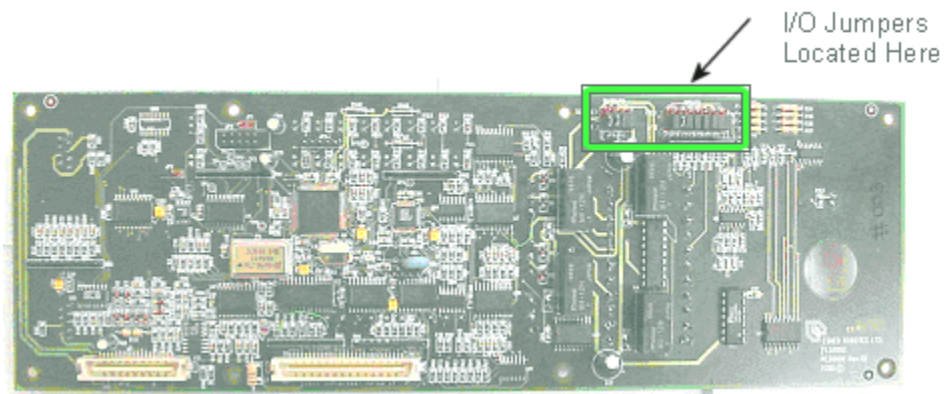

Figure 6-1: Location of Jumpers on I/O Card
3. Locate the jumpers on the upper right corner of the I/O card as shown in Figure 6-1.